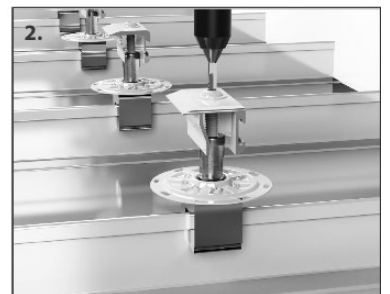

Figure 2
2. Mount the PV Disks and the EdgeGrab/StandOff Assembly to the first row of clamps: Place the PV Disk atop the clamp and thread the StandOff through the disk and into the clamp. Drive the EdgeGrab/StandOff Assembly down with provided hex-bit tip (Fig. 2) until the base of the StandOff seats the disk in place and breaks the thread-locking seal between the StandOff and low-profile bolt. Leave the grab up, to allow space for a module frame. A 1/2" open-end wrench can be used to further tighten the StandOff atop the disk if desired.